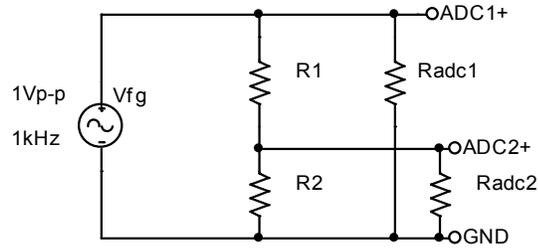

Figure B-7.
- The more exact model of this measurement is given in Figure B-7, where  $R_{adc1}$  and  $R_{adc2}$  represent the effective internal input resistances of the channels of the IOBoard. The effective input resistance of ADC1 can be ignored, but the input resistance of ADC2 effects the measurement. Using the measurements above, estimate the value of  $R_{adc2}$ .
Figure C-4 is a picture of the *Capture* main screen with the circuit we will be drawing. Note that this is the circuit used in Figure B-7 including the input resistance of one channel of the IOBoard.